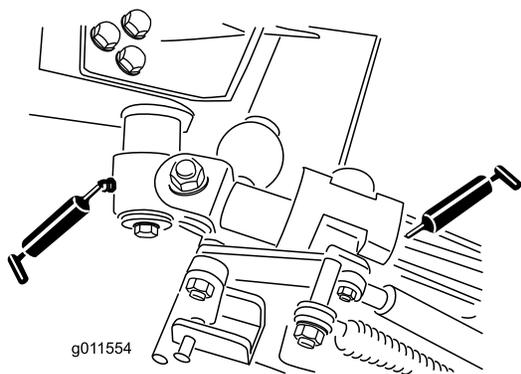

Figure 74
- 2 bell-crank-pivot bushings (Figure 74)
- 4 rear arm bushings (Figure 74)